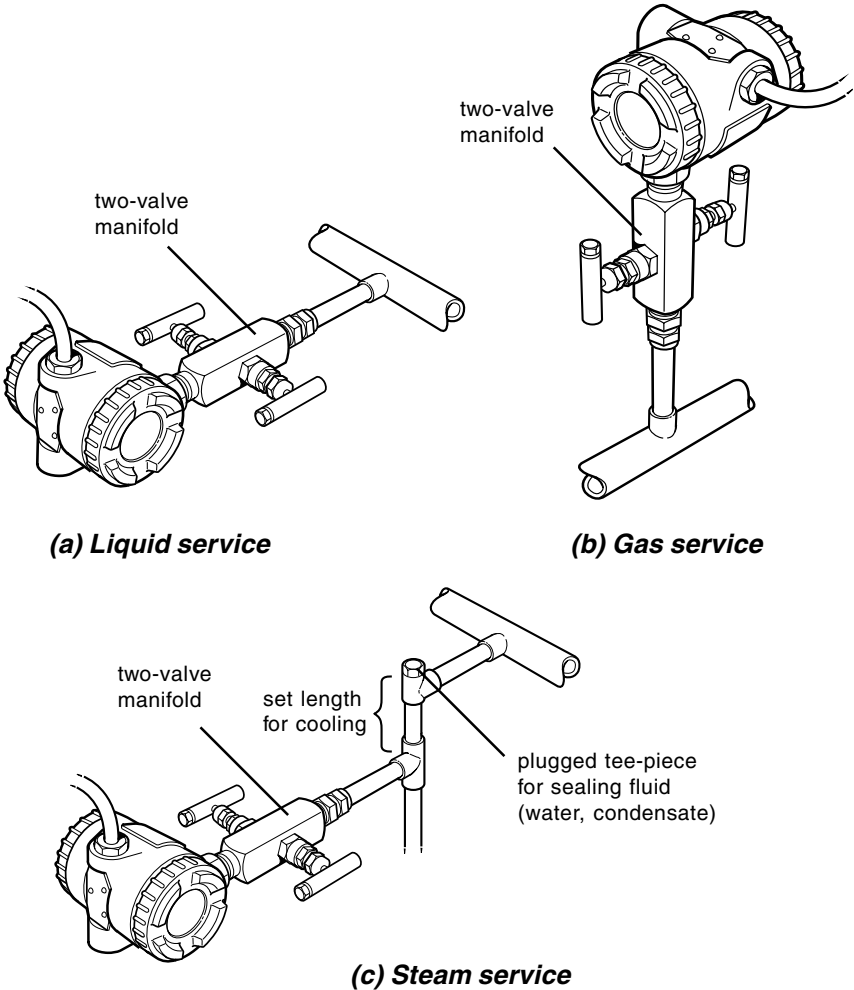

Figure 3-3 Piping arrangements
3.3 Location and Mounting (Figure 3-3)
3.6 Impulse Piping (Figure 3-3)